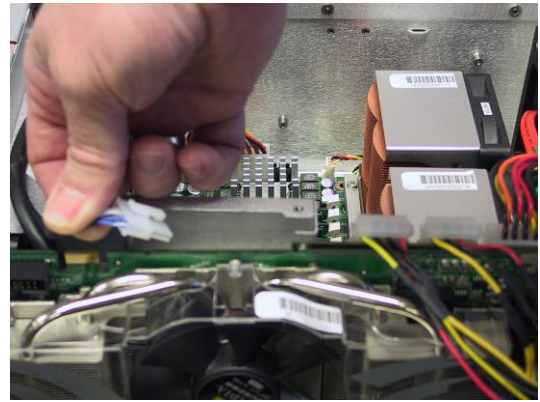

**Figure 4-60**
- 7) Gently remove the input power connector to the power distribution board (note the latch on the back side of the connector) as shown in Figure 4-60.